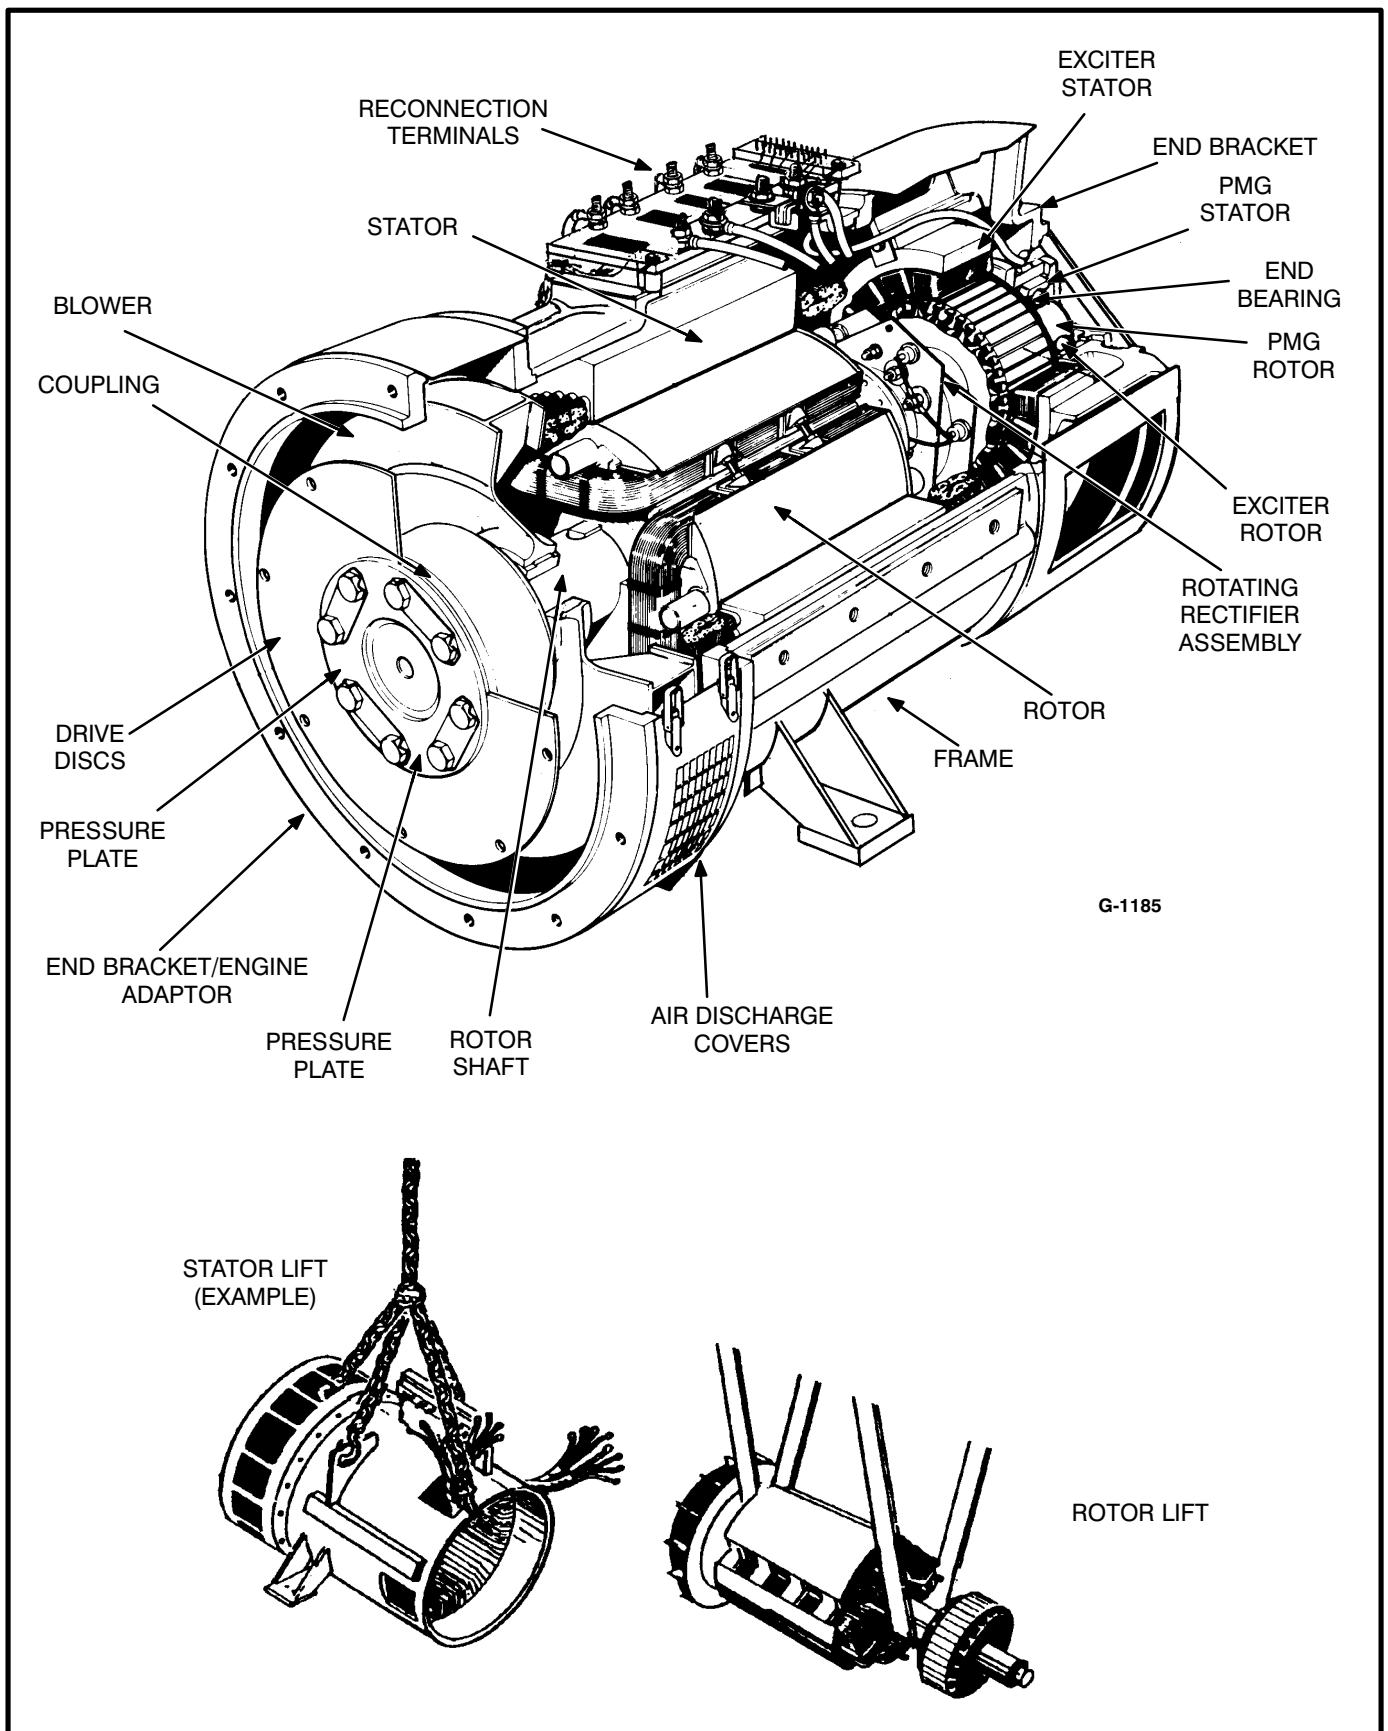
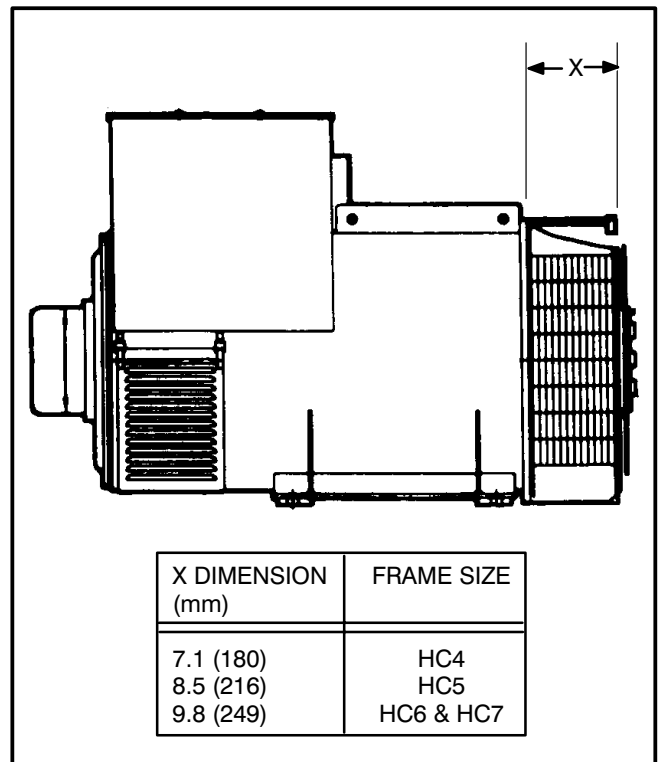

FIGURE 5-11. TYPICAL GENERATOR ASSEMBLY
FIGURE 5-13. GENERATOR FRAME SIZE
22. Using a forklift, position a lifting bar of the forklift (inside and inline with the generator) under the rotor shaft. Lift the rotor shaft slightly so that rotor is not resting on inside of stator assembly. See Figure 5-11.
25. Reposition or add hoist and sling support for the main rotor, and remove the forklift. See Figure 5-11, Rotor Lift detail.
2. Using an adequate lifting device, lift the generator (at lifting eyes provided, and main stator housing) until the mounting feet brackets are clear of the frame member (see Figures 5-11 and 5-12).
2. Align the holes of the engine adaptor endbracket with the holes in the flywheel housing and install the capscrews and lock washers. Refer to Figure 5-13 and Table 5-4 for torque specifications.
3. Secure the rotor assembly drive discs to the flywheel. Refer to Figure 5-13 and Table 5-4 for torque specifications.
19. Secure the rotor assembly drive disc to the flywheel using appropriate capscrews and flat washers. Refer to Figure 5-13 and Table 5-4 for torque specifications. Do not allow rotor assembly to hang on engine flywheel. (Refer to Figure 5-11.)
21. Using a forklift, position a lifting bar of the forklift (inside and inline with the generator) under the rotor shaft. Lift the rotor shaft slightly so that rotor is not resting on inside of stator assembly. See Figure 5-11.
22. Remove the hoist/sling support of the rotor assembly. Align the holes of the engine adaptor endbracket with the holes in the flywheel housing and install the capscrews and lock washers. Refer to Figure 5-13 and Table 5-4 for torque specifications.